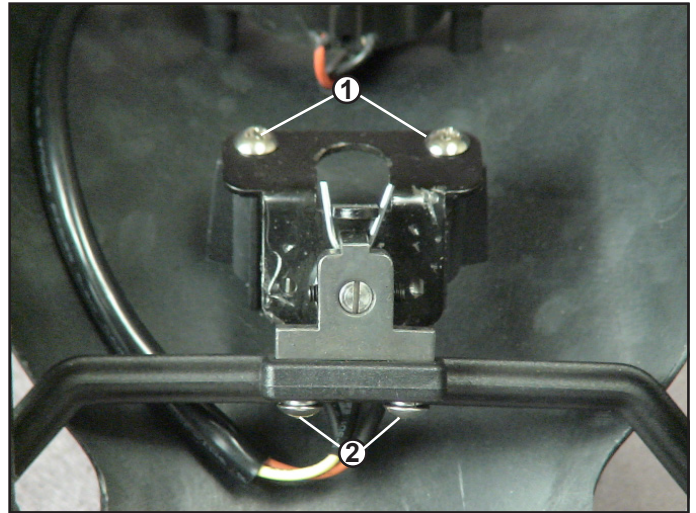

Figure 24. Throttle Pot
2. Remove the eight (8) screws that fasten the back tiller shroud to the tiller.
4. Remove the two (2) screws that fasten the throttle body to the tiller shroud (**See #1 on figure 24.**)
5. Remove the two screws that fasten the throttle lever to the throttle control lever bracket (**See #2 on figure 24**) and lift off the throttle lever.